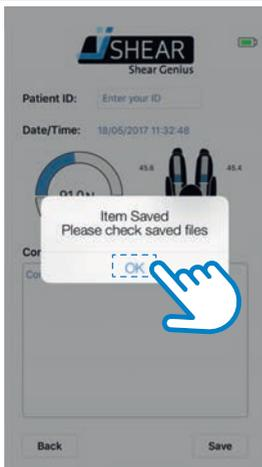

Figure 23 - Tap 'OK' to save
6. Tap 'Save' and then 'OK' in the popup screen (see Figure 23).